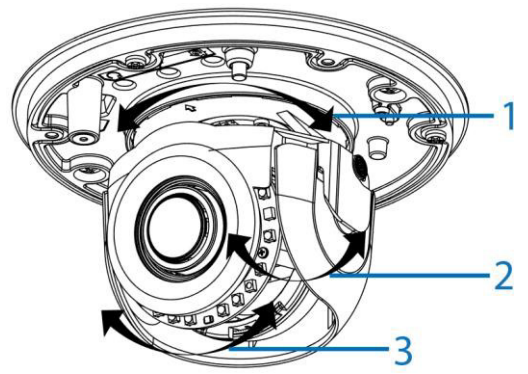

Figure 7
9. Adjust the camera lens position as follows. See Figure 7.
- **Pan Adjustment (1):** Rotate the lens base until you are satisfied with the field of view.
- **Tilt Adjustment (2):** Tilt the eye-ball assembly as needed.
- **Rotate Adjustment (3):** Rotate the 3D assembly in the camera base.